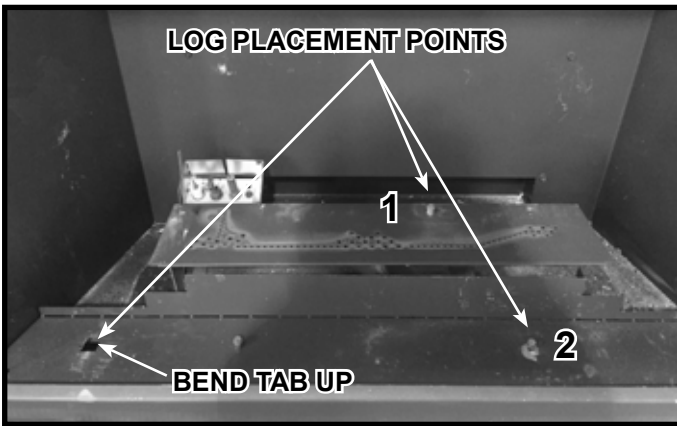
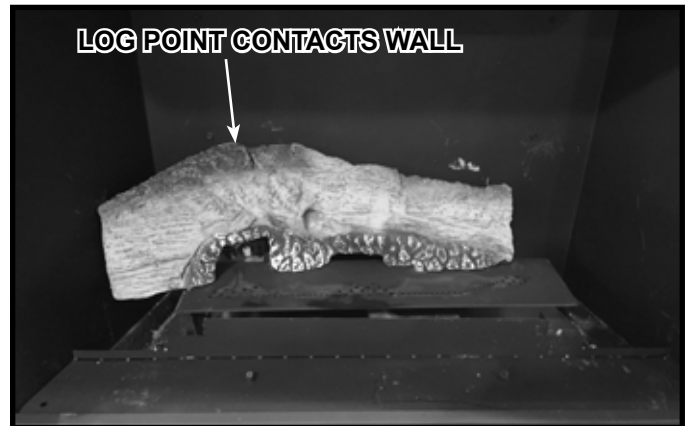
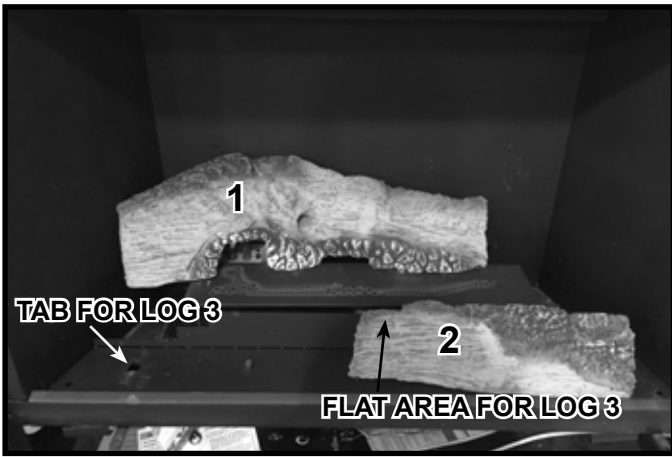

Figure 3.
Figure 4.
Figure 5.
Figure 3 shows the points used for correct log placement. Bend the tab on the basepan upward to a 90 degree angle as shown. The two shoulder screws will be used in placement of Log 1 and Log 3.
**Log #1 SRV2401-701:** Locate the hole on the bottom right side of Log 1 and the shoulder screw marked “1” in Figure 3. Place the hole onto the shoulder screw as shown in Figure 4. Push the left side of Log 1 back until it contacts the back wall of the firebox.
**Log #2 (SRV2401-702):** Locate the hole on the bottom side of Log 2 and the shoulder screw marked "2" in Figure 3. Place the hole onto the shoulder screw as shown in Figure 5. Push the left side of Log 2 back until it contacts the back of the basepan.
**Log #3 (SRV2401-703):** Locate the groove on the left side of Log 3. Place the log on the tab that was bent up in Step 1 and set the right side of the log on top of the flat area on Log 2. Refer to Figure 5 for tab and flat area. Figure 6 shows Log 3 placed correctly.